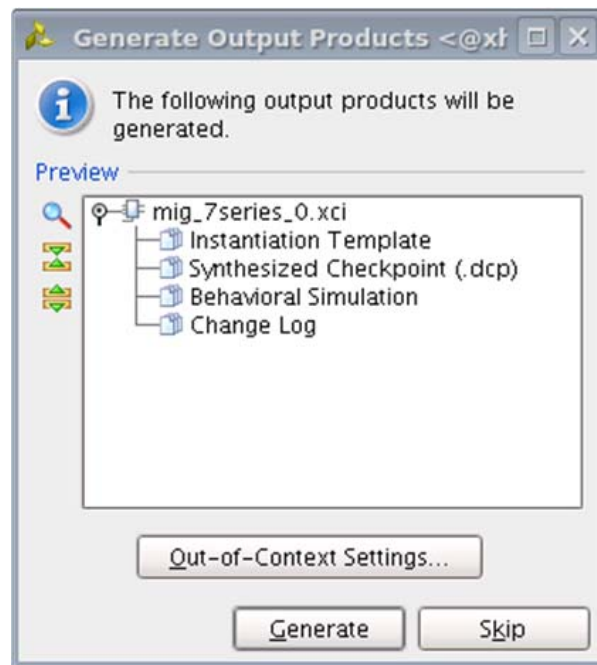

Figure 3-25: **Generate Output Products Window**
1. After clicking **Generate**, the **Generate Output Products** window appears. This window has the **Out-of-Context Settings** as shown in Figure 3-25.